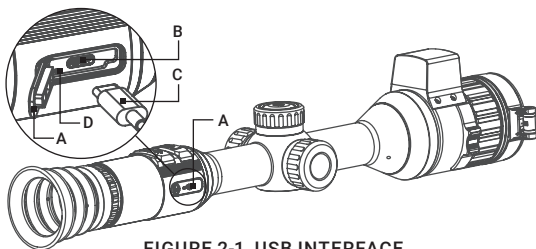

FIGURE 2-1. USB INTERFACE
1. Open the USB interface cover (Figure 2-1, A).
2. Connect the power adapter to the scope's interface port (B) using the USB cable (C).
3. Plug in the power adapter and charge the built-in battery. Icon  in the FOV of scope indicates the charging process. The green icon  means the battery is fully charged. The color LED (D) near USB port indicates the charging status. Charge the device for more than 6 hours before first use.